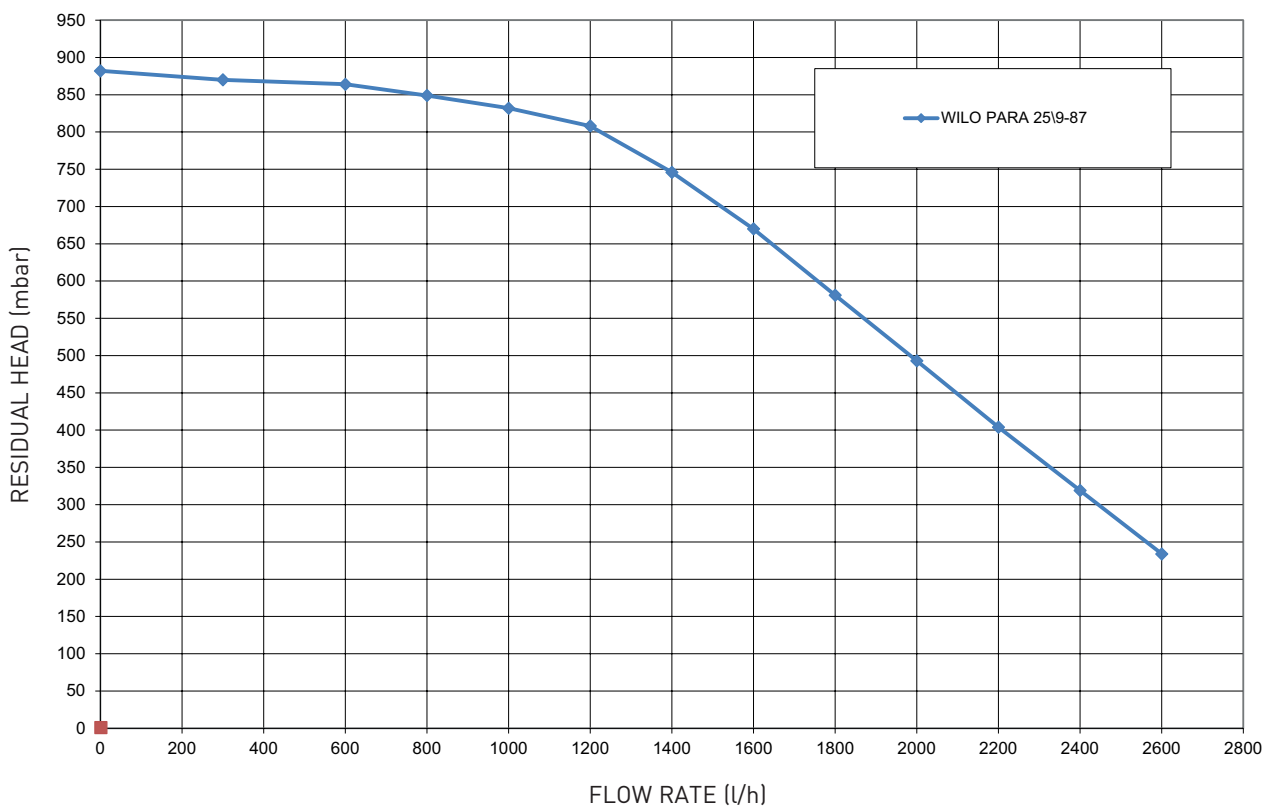

Fig. 14
shown as a function of rate of flow in the graph in fig. 14. The speed of the modulating pump system is set as default (installation parameter **PAR 13 = Au**).
3.8 HEAD AVAILABLE TO SYSTEM (fig. 14)